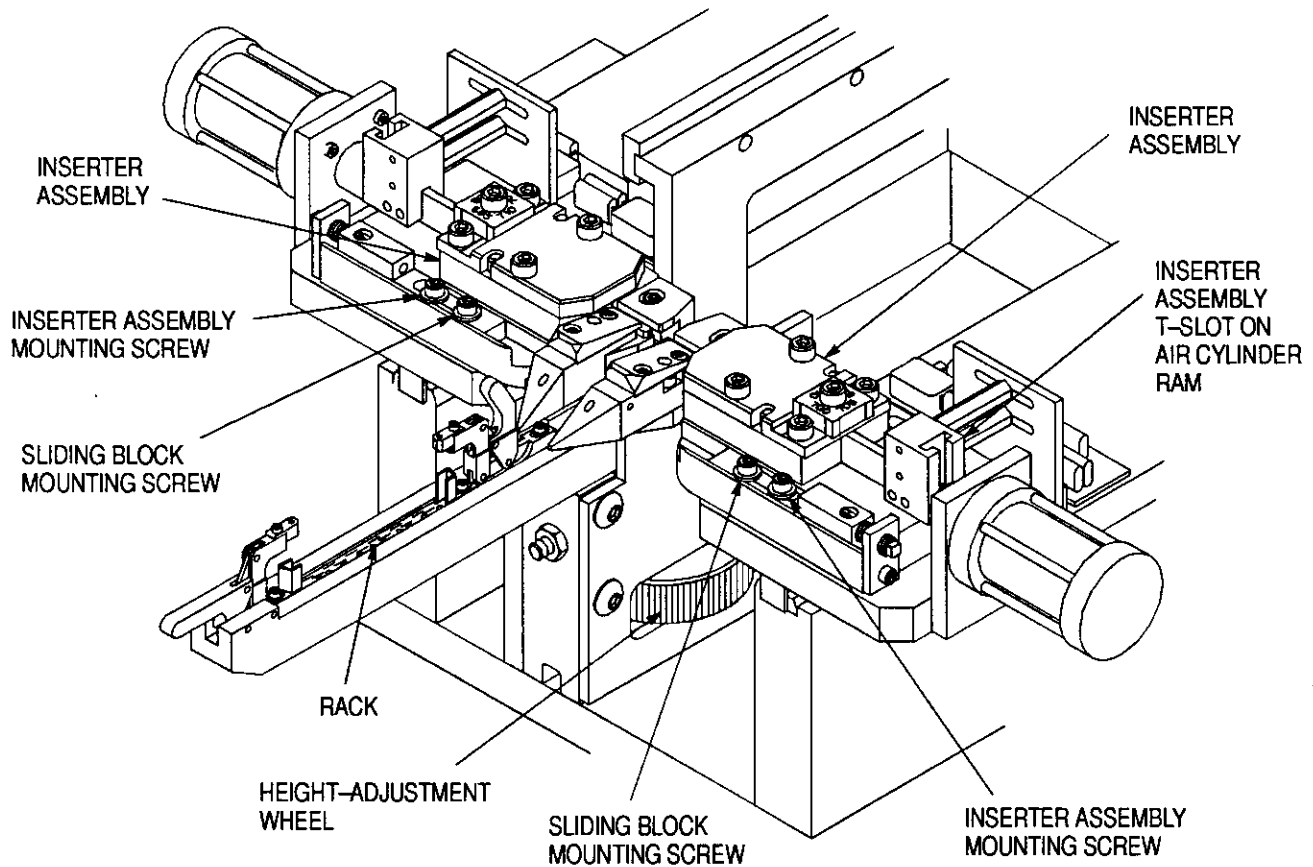

Figure 3
**3.2. Inserter Assemblies** (Figure 3)